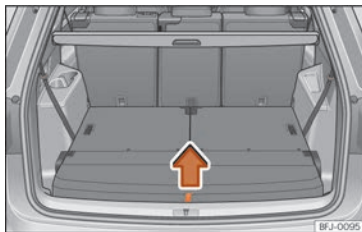

Fig. 161 In the boot: lift the boot floor.
- Grab the boot floor by the cord »» Fig. 161 and lift it in the direction of the arrow and remove it.